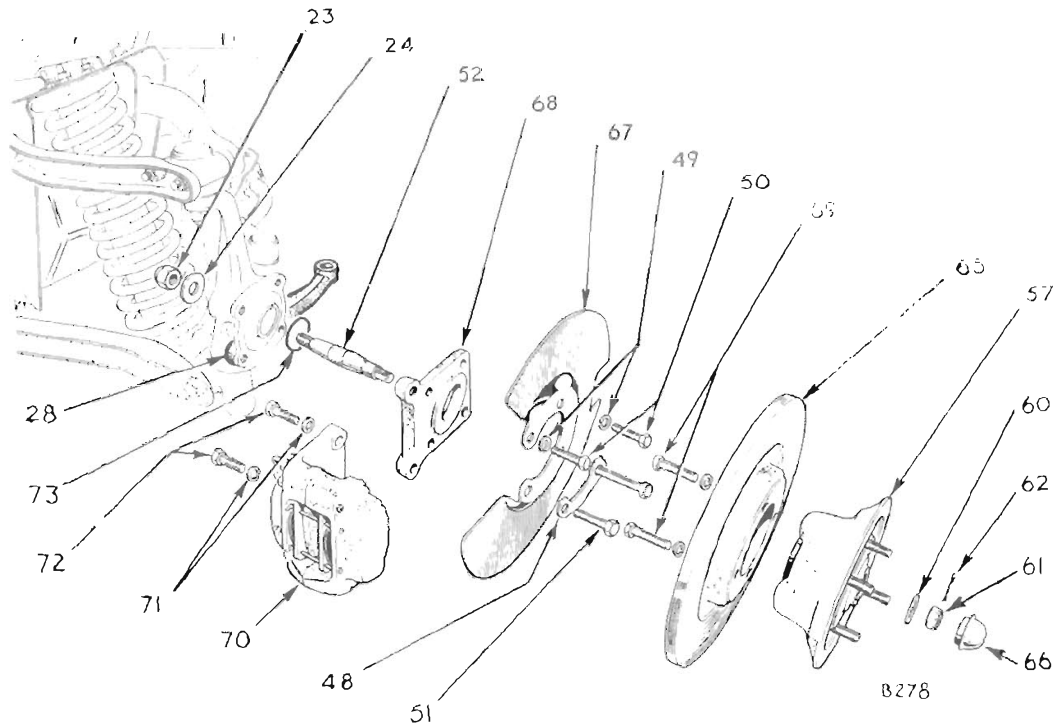

Fig. 33. Exploded details of disc brake components
NOTE: Vehicles with Commission Nos. from G.A.99486 (Herald 1200), F.C.2393 (Spitfire), H.B.7082 (Vitesse) and G.D.215 (Herald 12/50) have a rubber seal (73), Fig. 33, fitted between the recessed face of the caliper bracket and the vertical link.